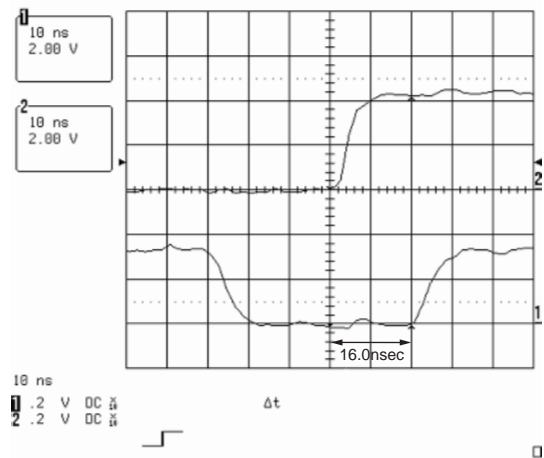

Fig. 2 CH1 HSYNC, CH2 OSD_CLK (Enlarged)
4. As shown in Figure 2, adjust so that the difference between rising edge of HSYNC and the rising edge of OSD_CLK, when its L-period is long, would be $16.0 \pm 5 \text{ nsec}$.